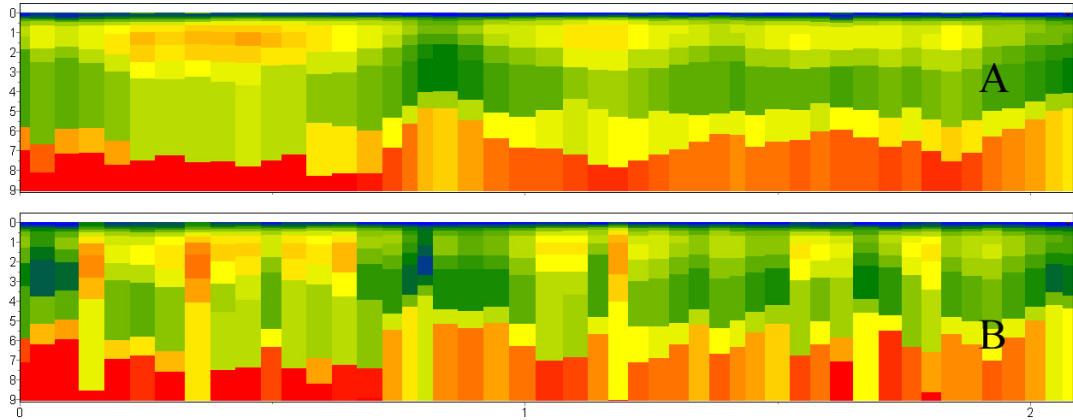

Fig. 24 Results compare of standard 1D inversion (B) and application 1.5D inversion algorithm (A)
Figure 24 shows results of this algorithm (A) compared to results obtained by standard procedure (B).